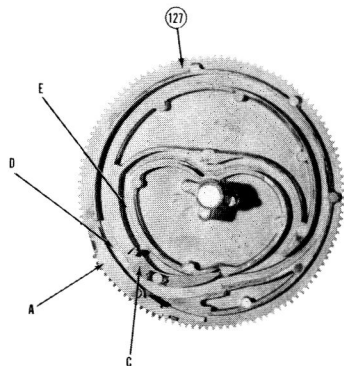

FIGURE 5
Energizing the solenoid pulls the starting pawl (A) of the main cam (127), Figure 5, causing the teeth of the pawl to mesh with turntable gear (120). This starts the cam (127) rotating, thus starting the change cycle.
As the tone arm moves outward, the riser head assemblies (32) are rotated inward by the movement of the main cam follower through the following connected parts: the formed wheel turn lever (94), the straight wheel turn lever (95), and the offset wheel turn lever (123). The stud on the straight wheel turn lever (95) also actuates the push-off cam assembly (81), which in turn actuates the push-off lever (13) and the push-off slide plate (6), thereby dropping a record to the wheels. As the cam follower pin (98) moves by the cam gate (C), Figure 5, it is switched into the inner cam track (E) and the design of the cam track causes the cam follower to continue to pivot the riser heads inward and to lower the wheels to the turntable. During the next change cycle, or during one side operation, the cam gate switches the cam follower pin into the outer cam track (D) and the design of the cam track causes the cam follower to return the riser heads and the push-off slide plate to their original positions, thus dropping the record to the turntable.
Second, a low voltage control circuit consisting of two solenoids (105, 129), two leaf switches (107, 96), two slide switches (53, 52), one toggle switch (110) and a sliding snap switch (126). The latching solenoid (129) when energized pulls the latch away from the plunger of main switch (53), thus releasing the switch which springs up and cuts off the motor and step-down transformer. The trip solenoid (105) when energized moves the cam cycling pawl (A), Figure 5, into contact with the turntable gear (120), starting the cam motion and changer cycle. The leaf trip switch (107) is adjusted to determine *when* action takes place, cycling, *and* shut-off. The leaf bale switch (96) determines *which* action takes place, cycling *or* shut-off.